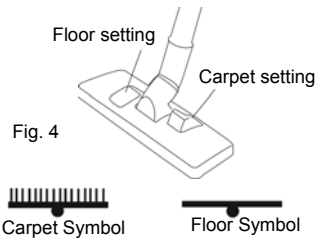

Fig. 4
- To set for carpet push down the toggle with the carpet symbol. (Fig. 4)